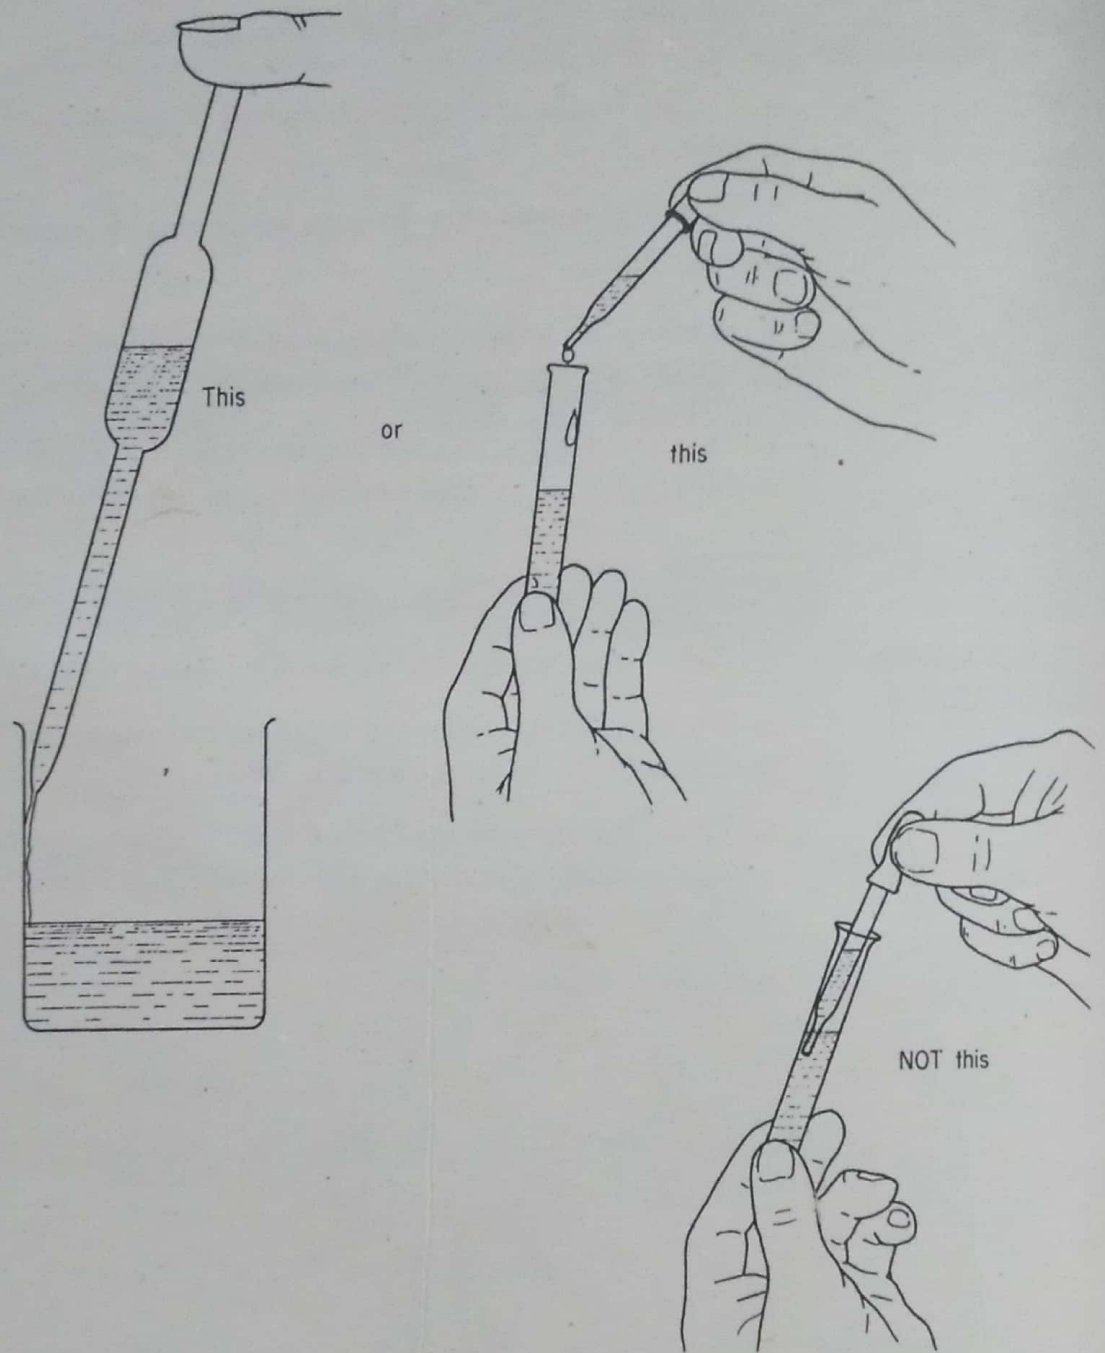

FIGURE 3.9
2. Hold it above the solution to which it is to be added. *Do not* immerse it in the solution because it will then become contaminated by the solution. (See Fig. 3.9.)